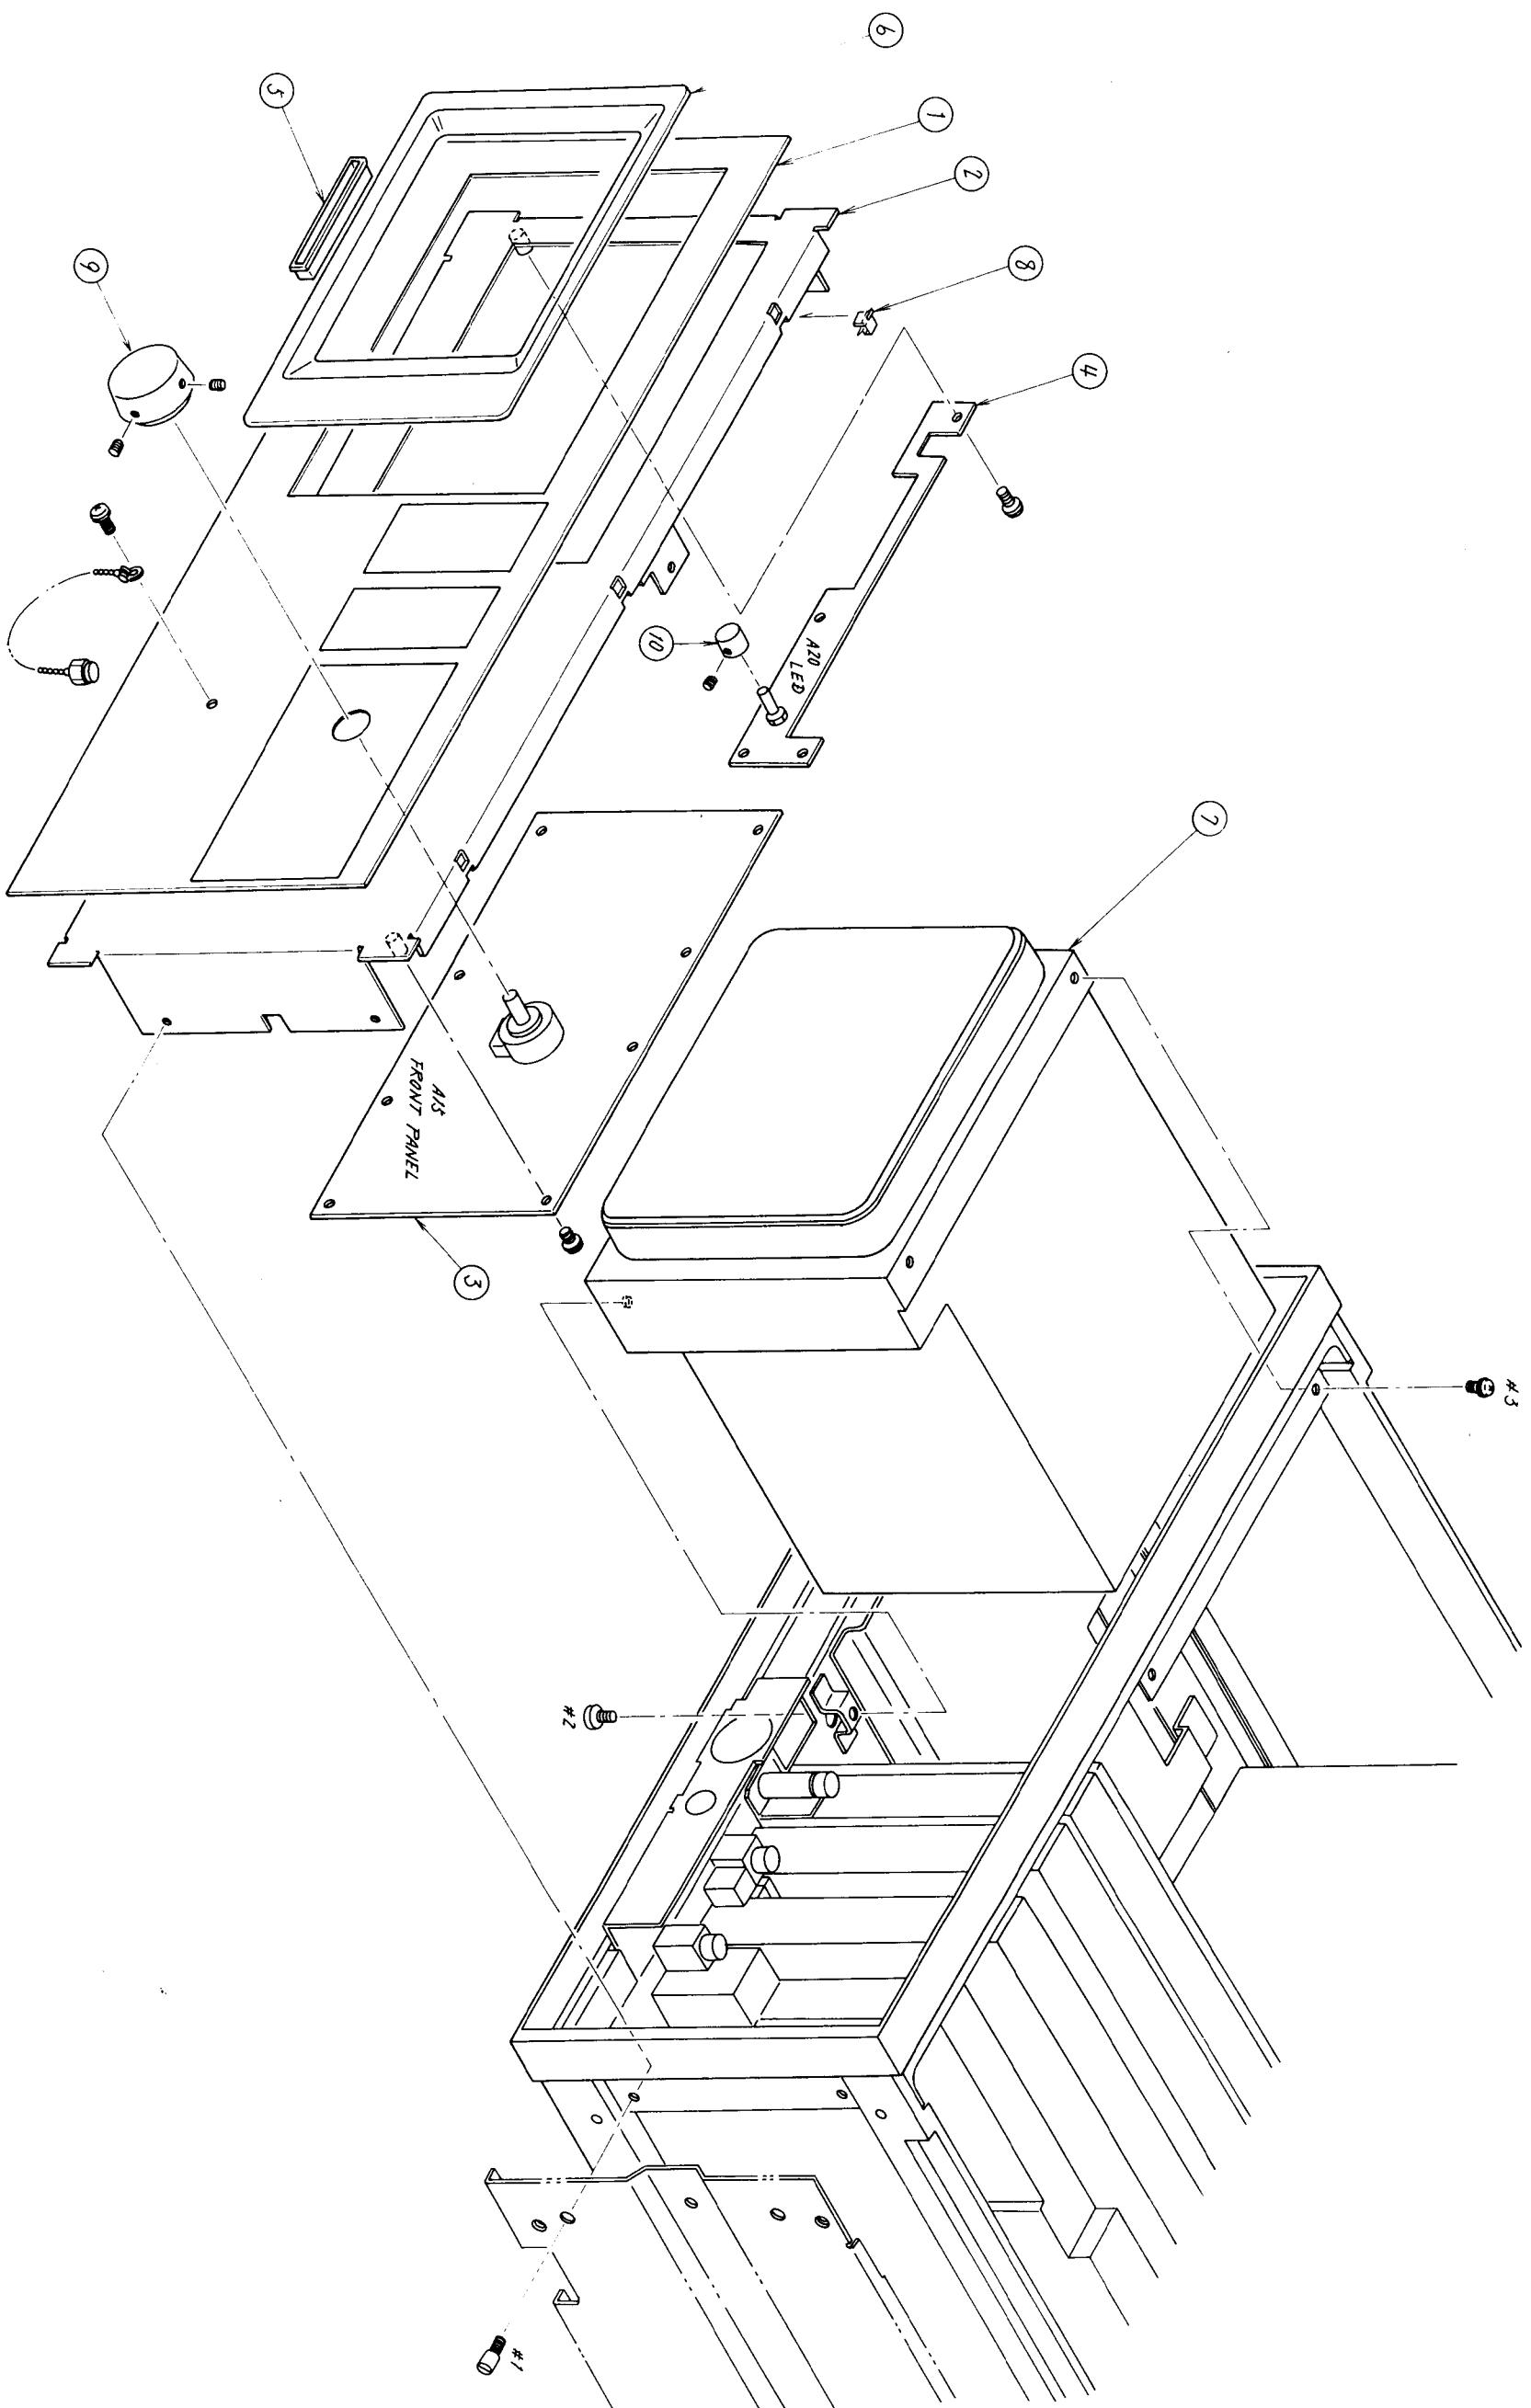

Fig. 5-4 Front-Unit Assy
(2) Removing front panel unit (① decorative panel + ② front panel + ③ A15: FRONT + ④ A20: LED + ⑤ bezel + ⑥ bezel) (Fig. 5-4)
(3) Removing ⑦ Z1: CRT (Fig. 5-4)